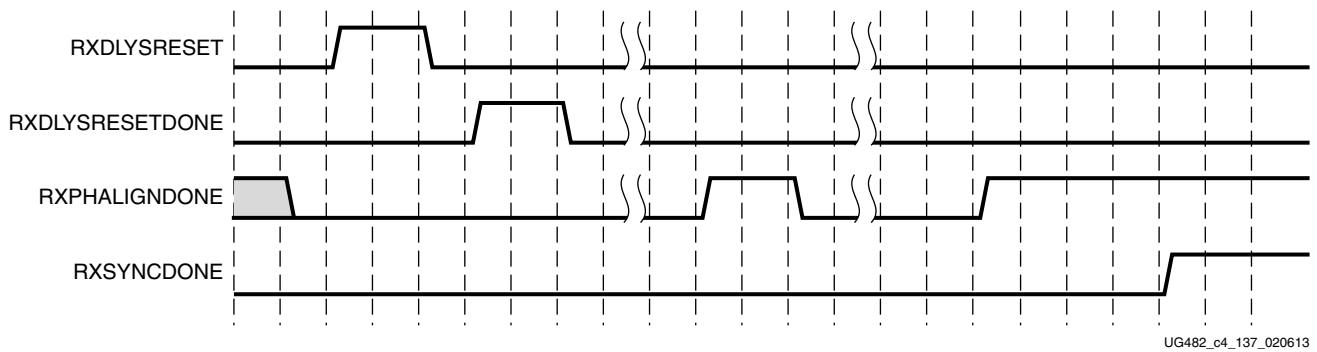

Figure 4-37: RX Buffer Bypass Example—Single-Lane Auto Mode
Figure 4-37 shows the required steps to perform the auto RX phase alignment and use the RX delay alignment to adjust RXUSRCLK to compensate for temperature and voltage variations.
Notes relevant to Figure 4-37:
1. The sequence of events in Figure 4-37 is not drawn to scale.